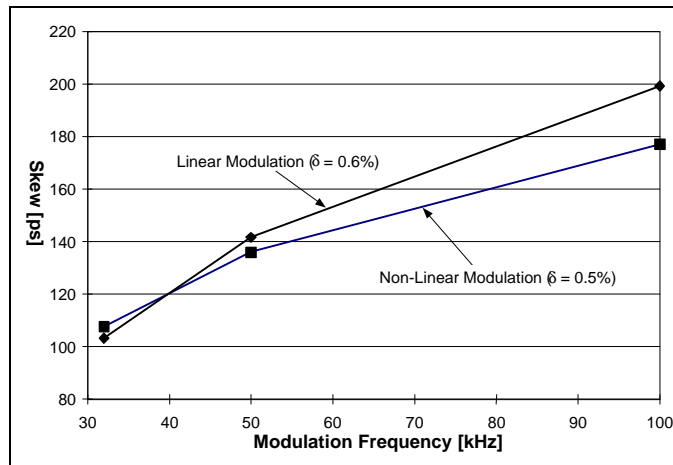

Figure 14 Downstream PLL tracking skew and modulation frequency
8. The modulation frequency of SSC is required to be in the range of 30-33 kHz to avoid audio band demodulation and to minimize system timing skew. The downstream PLL tracking skew, i.e., the accumulative phase difference between the downstream PLL input and output clocks, is shown in Figure 14, as functions of modulation frequency, modulation profile, and spread amount. This plot is obtained through PLL behavior simulations assuming a jitter-free ideal modulated input clock to the PLL. The parameters of the simulated PLL are: